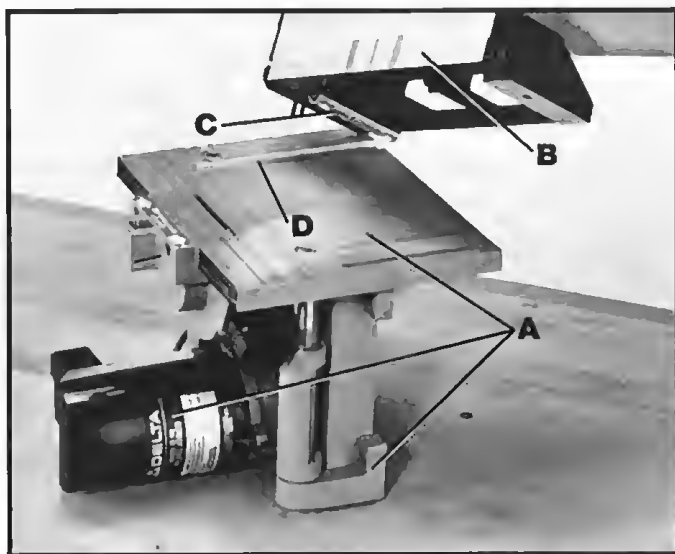

Fig. 2
1. Place the motor and fence assembly (A) Fig. 2, on a flat supporting surface or workbench, as shown.
2. Position table (B) Fig. 2, so guide (C) will rest inside channel (D) of fence.